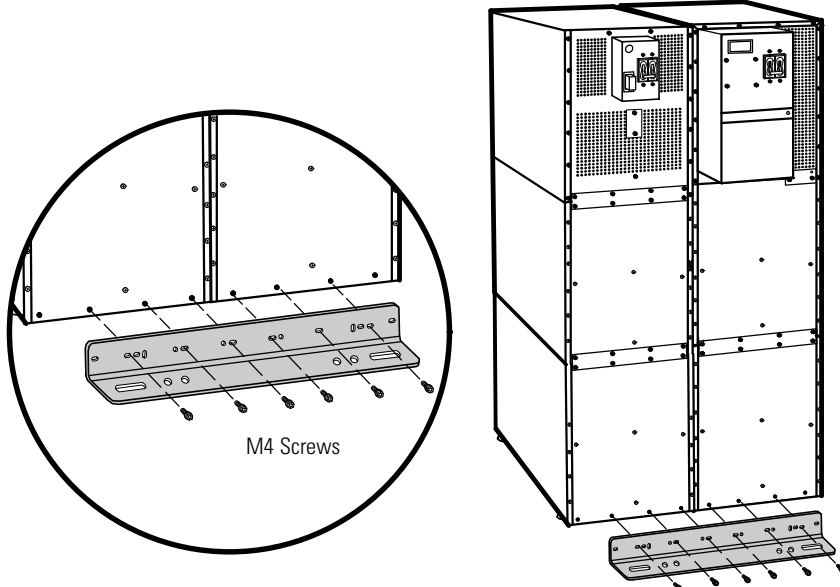

Figure 24. Stabilizing Bracket with Two Cabinets
- For two cabinets, see Figure 24.